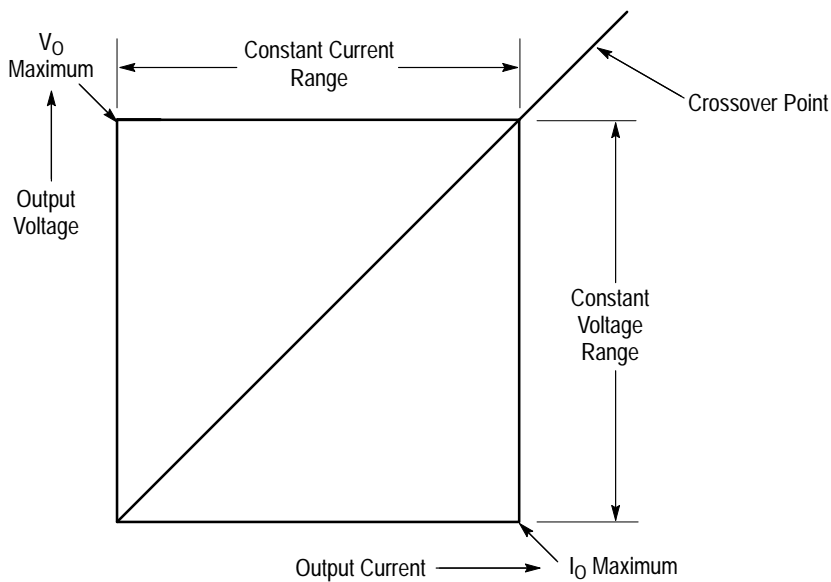

Figure 3: Constant Voltage/Constant Current Crossover
11. **C.C. Indicator.** If this is lighted, the left variable power supply is producing a constant current. See Figure 3 on page 10 for an illustration of the constant voltage/constant current cross-over point.
12. **C.V. Indicator.** If this is lighted, the left variable power supply is producing a constant voltage. See Figure 3 on page 10 for an illustration of the constant voltage/constant current cross-over point.
- 18. C.C. Indicator.** If this is lighted, the power supply is producing a constant current. See Figure 3 on page 10 for an illustration of the constant voltage/constant current crossover point.
- 19. C.V. Indicator.** If this is lighted, the power supply is producing a constant voltage. See Figure 3 on page 10 for an illustration of the constant voltage/constant current crossover point.
The PS280 or PS283 DC Power Supply features a constant voltage/constant current automatic crossover. This feature permits continuous operation in the transition from constant-voltage mode to constant-current mode as the load changes. The intersection of the constant-current and constant-voltage modes is called the crossover point. Figure 3 on page 10 shows the relationship between the load and the crossover point.